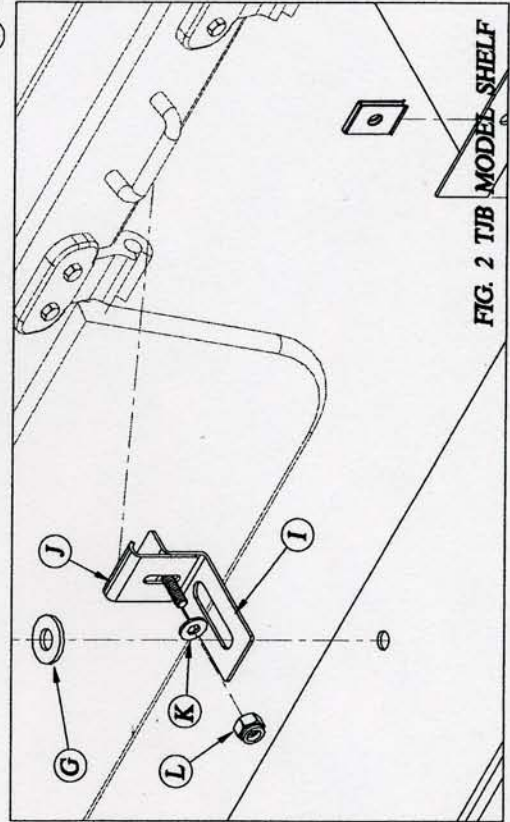

FIG. 2 TJB MODEL SHELF
3. Assemble center bracket assembly by attaching slip joint bracket **J** to center bracket **I** using 3/16" flat washer **K** and 3/16" nyloc nut **L** according to fig. 2. Attach center bracket assembly to the loop at the top center of windshield frame according to fig. 2.